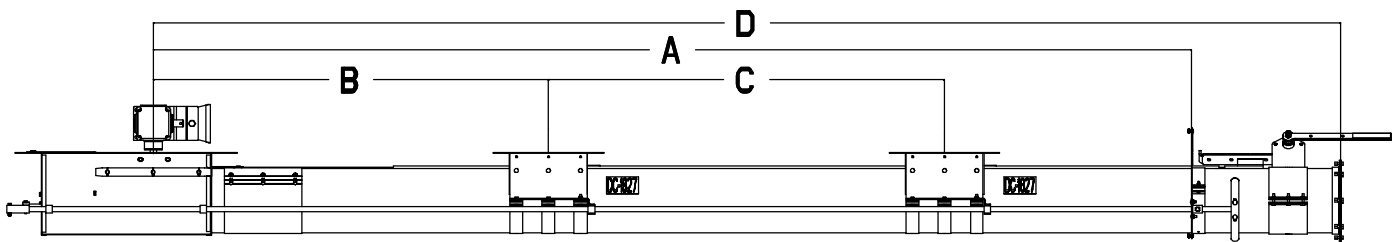

Fig. 3
- A. Cut openings in the bin floor for the intermediate wells. (See Fig. 2-A & 2-B on page 14.) The number of wells depends on bin size. The distances between intermediate wells and the center well should be equal. (See Fig. 3 and Chart below.)